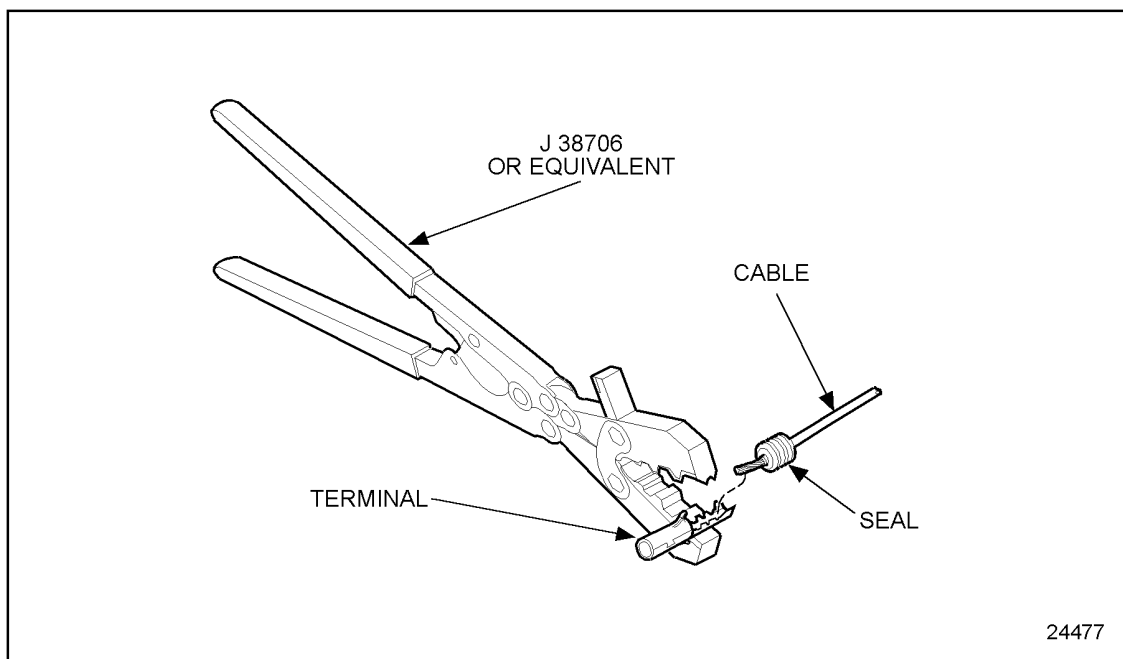

Figure 8-27 Terminal Position
3. See Figure 8-27 to position the cable seal.